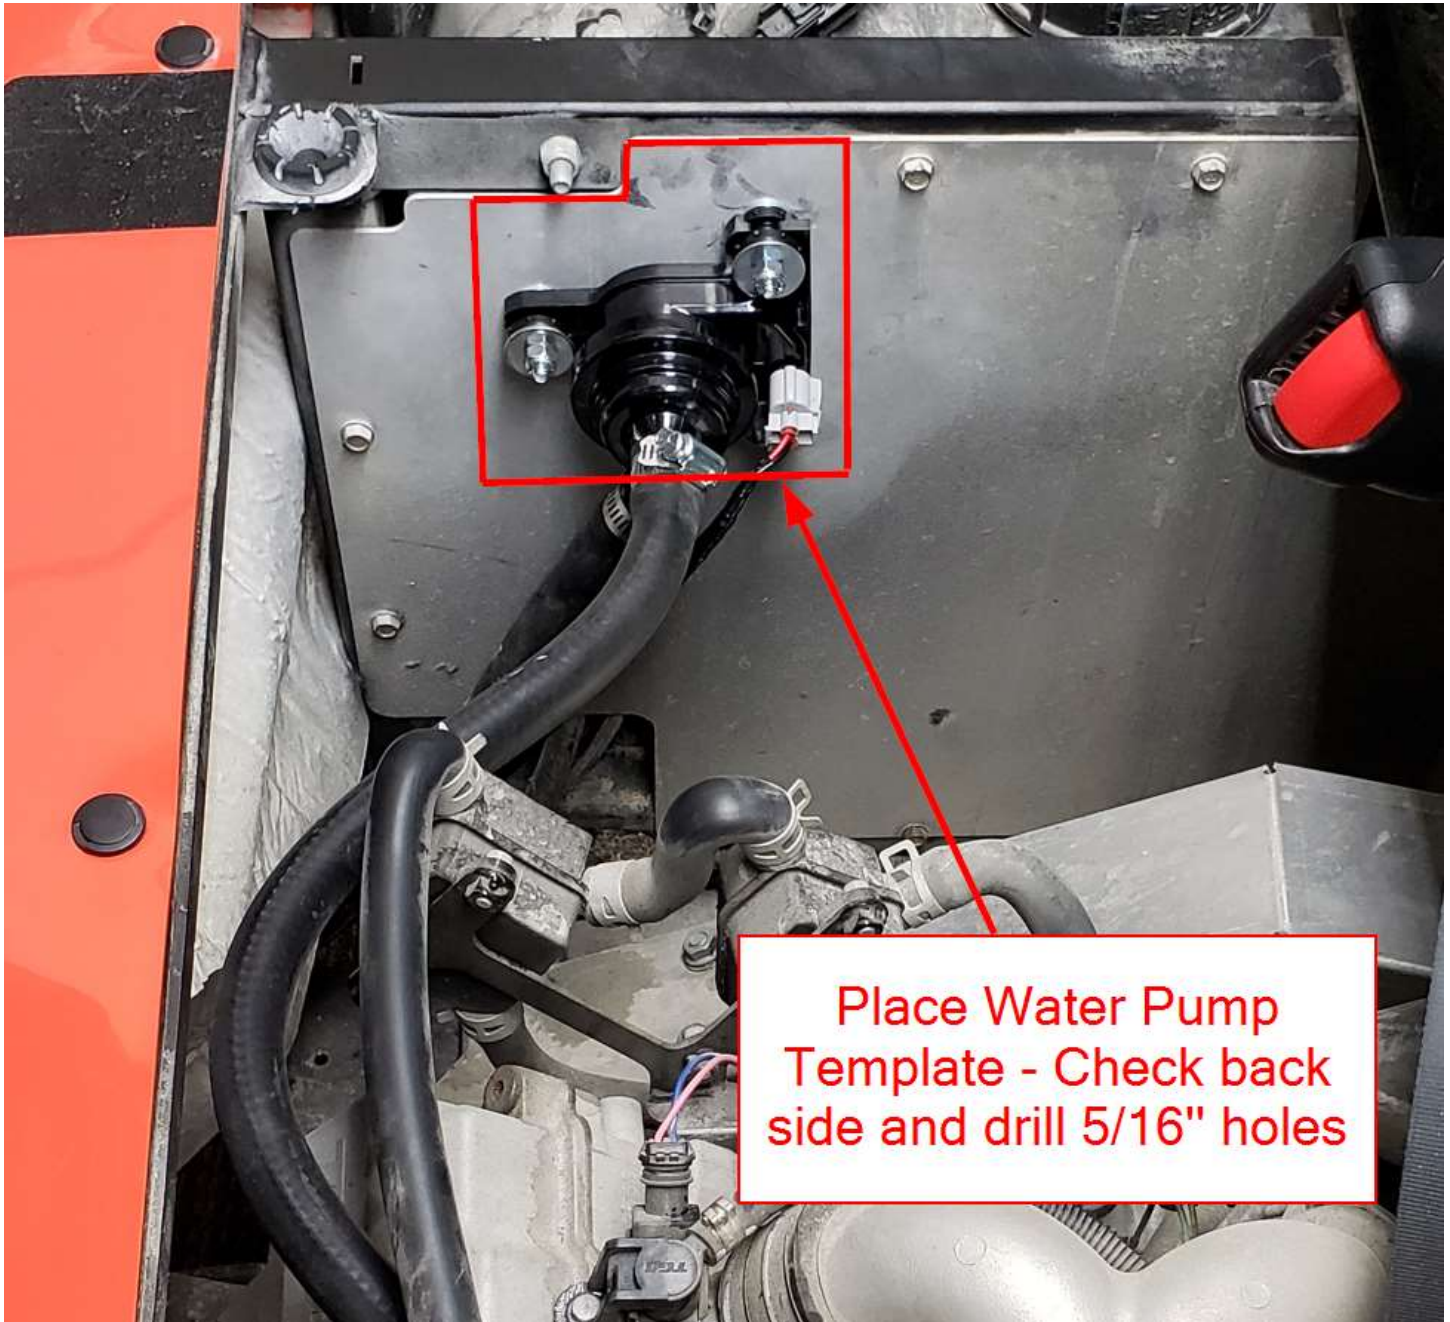

Figure 33
- a. Position the Water Pump Template on the Passenger Side Engine Bay wall as shown in Figure 33. Transfer hole centers, **verify nothing is behind the holes** and drill using a 5/16" Bit.
- c. Attach the Water Pump to the sidewall as shown in Figure 33 using the three 1/4"-20 x 1 1/2" Serrated Flange Bolts, 1/4" Flat Washers and 1/4" Nylock Nuts.